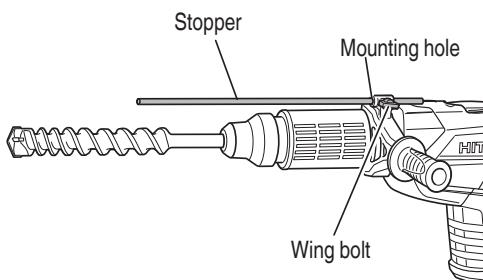

Fig. 11
- Switch the selector lever to "hammering" according to the procedures mentioned in the above item (1) and secure the position of the tool.
- Install the stopper (Fig. 11)